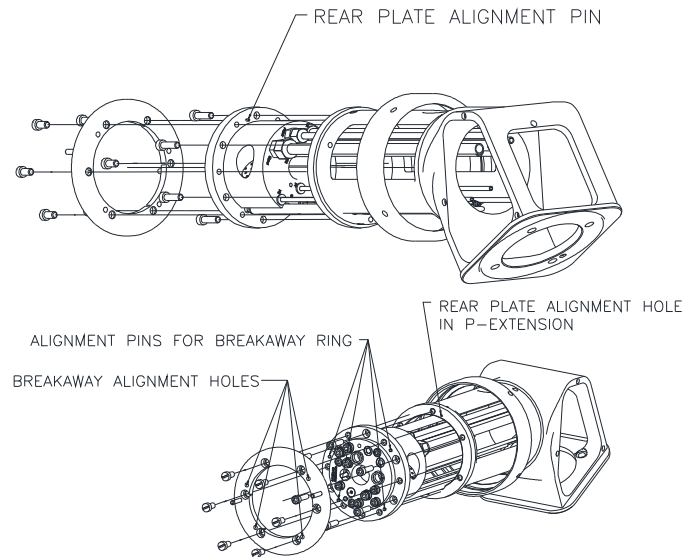

Figure 35: Cup Wash Manifold Removal/Replacement
Cup Wash Manifold Removal/ Replacement (Applicator Off Robot) (See Figures 35 and 36)
Align the locating pin and the rear plate with the locating hole of the atomizer extension. Install the six (6) 6mm socket head screws. Tighten to 15 lbs.- in. (1.69 Nm) torque (see Figure 35).